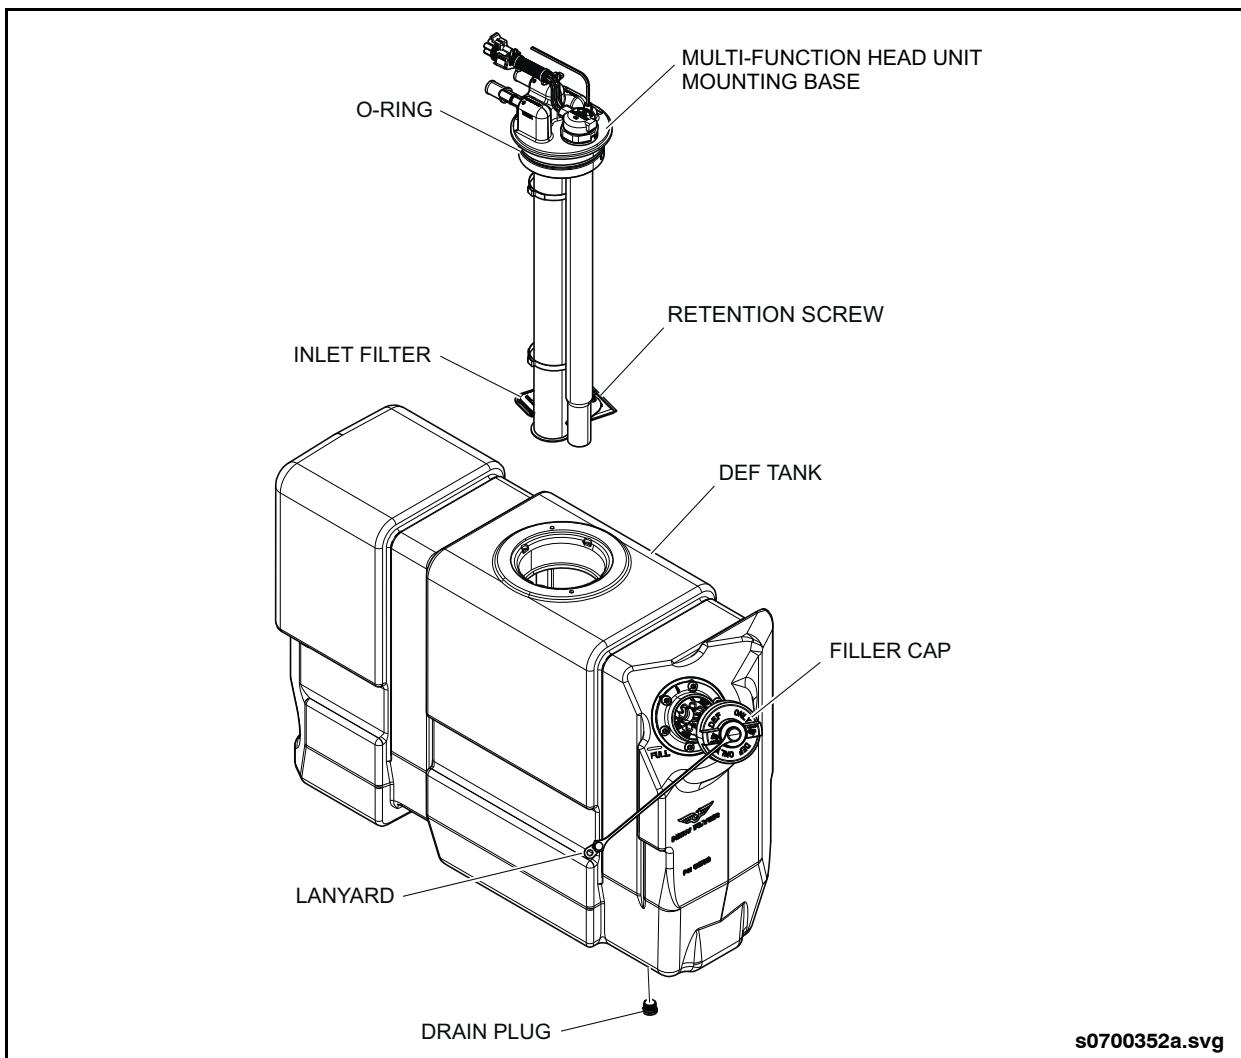

Fig. PM-44: DEF Tank Inlet Filter
2. Disconnect the electrical connectors, coolant lines, and DEF fluid lines from the multi-function head unit assembly of the DEF tank. See "Fig. PM-44: DEF Tank Inlet Filter" on page 90.